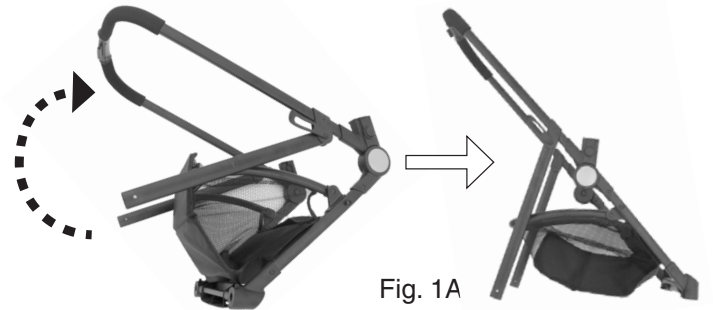

Fig. 1A
- Lift the handlebar up until stroller frame locks into place (Fig. 1A)